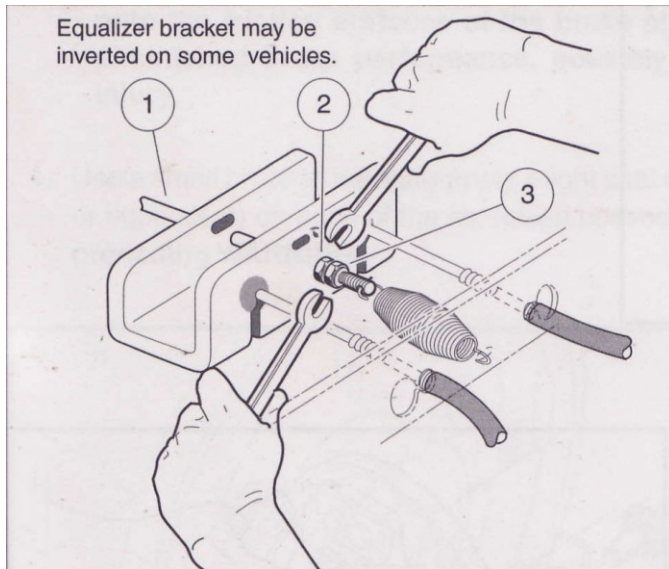

Figure 6-2
Loosen the equalizer retaining nuts (2 and 3) on the equalizer rod (1) to loosen the brake cable (Figure 6-2).
3. Loosen the equalizer retaining nuts (2 and 3) on the equalizer rod (1) to loosen the brake cable (Figure 6-2).